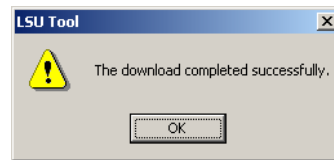

Figure 120: Successful Firmware Upgrade
3. If the upgrade is successful, the following window appears (Figure 120).